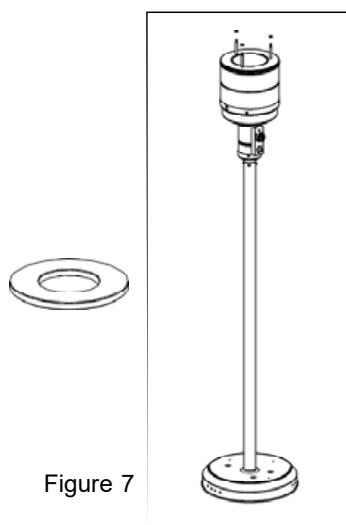
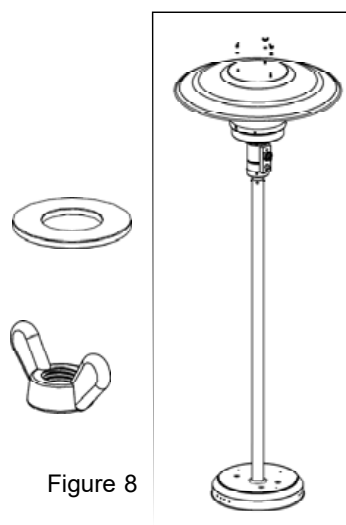

Figure 7
Figure 8
G. Place burner head so control button is vertically aligned with the instructions label on the post. Place 1 steel washer over each of the 3 bolts (Figure 7). Install reflector over burner head through bolts. Place steel washers over each bolt (Figure 8). Secure reflector with wing nuts.